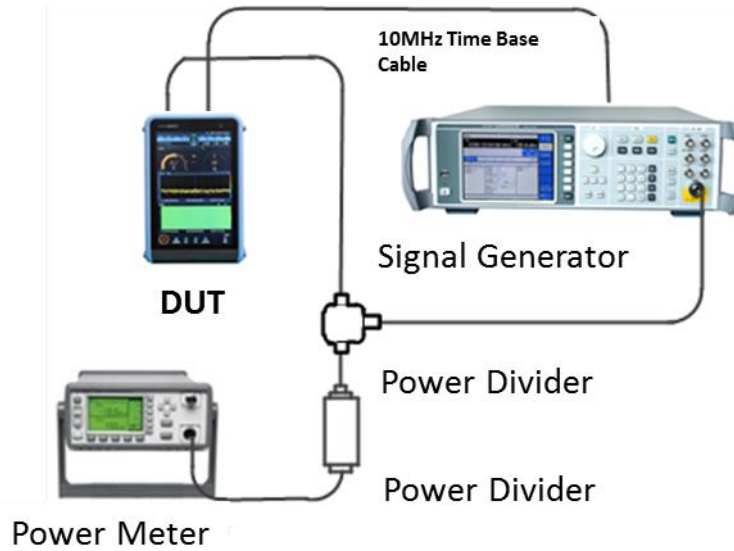

Fig. 8.13 Schematic diagram of IF suppression test
- 1) Connect the test equipment as shown in Figure 8.13.